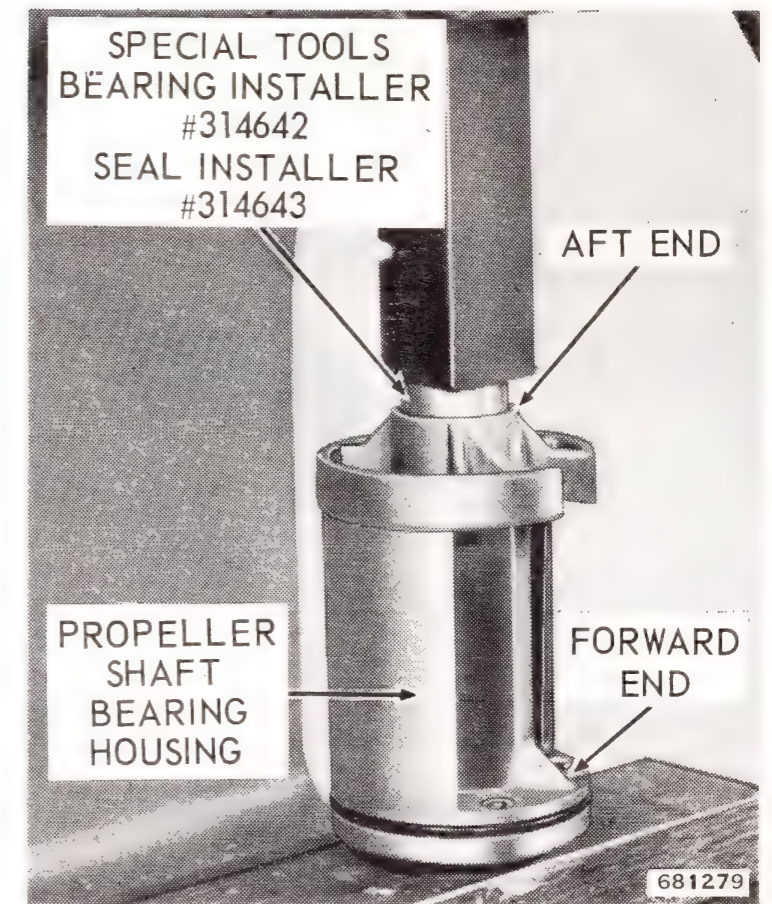
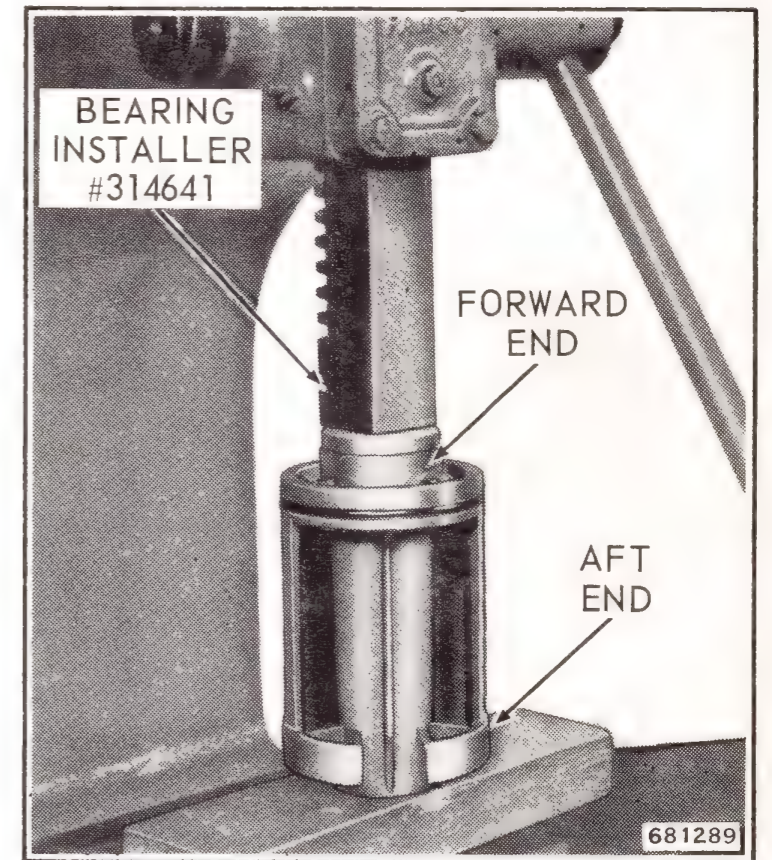

Figure 6-33. Installing Gearcase Head Aft Bearing and Seals
Figure 6-34. Installing Gearcase Head Forward Bearing Seals
k. If removed, install new bearings in propeller shaft bearing housing. For large bearing, use Special Tool #314641 (See Figure 6-34); for small bearing, use Special Tool #314642. See Figure 6-33. Install oil seals back to back (one seal lip facing out and one seal lip facing in) using seal installer (Special Tool #314643). See Figure 6-33.